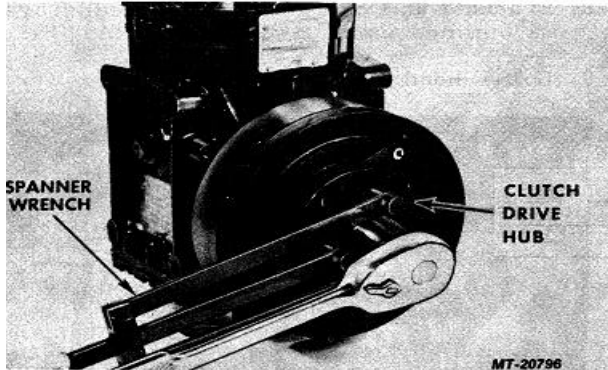

Fig. 42 Removing Magnetic Clutch
4. Using spanner wrench (SE-2392-4) to hold clutch hub, remove clutch retainer bolt (Fig. 42).